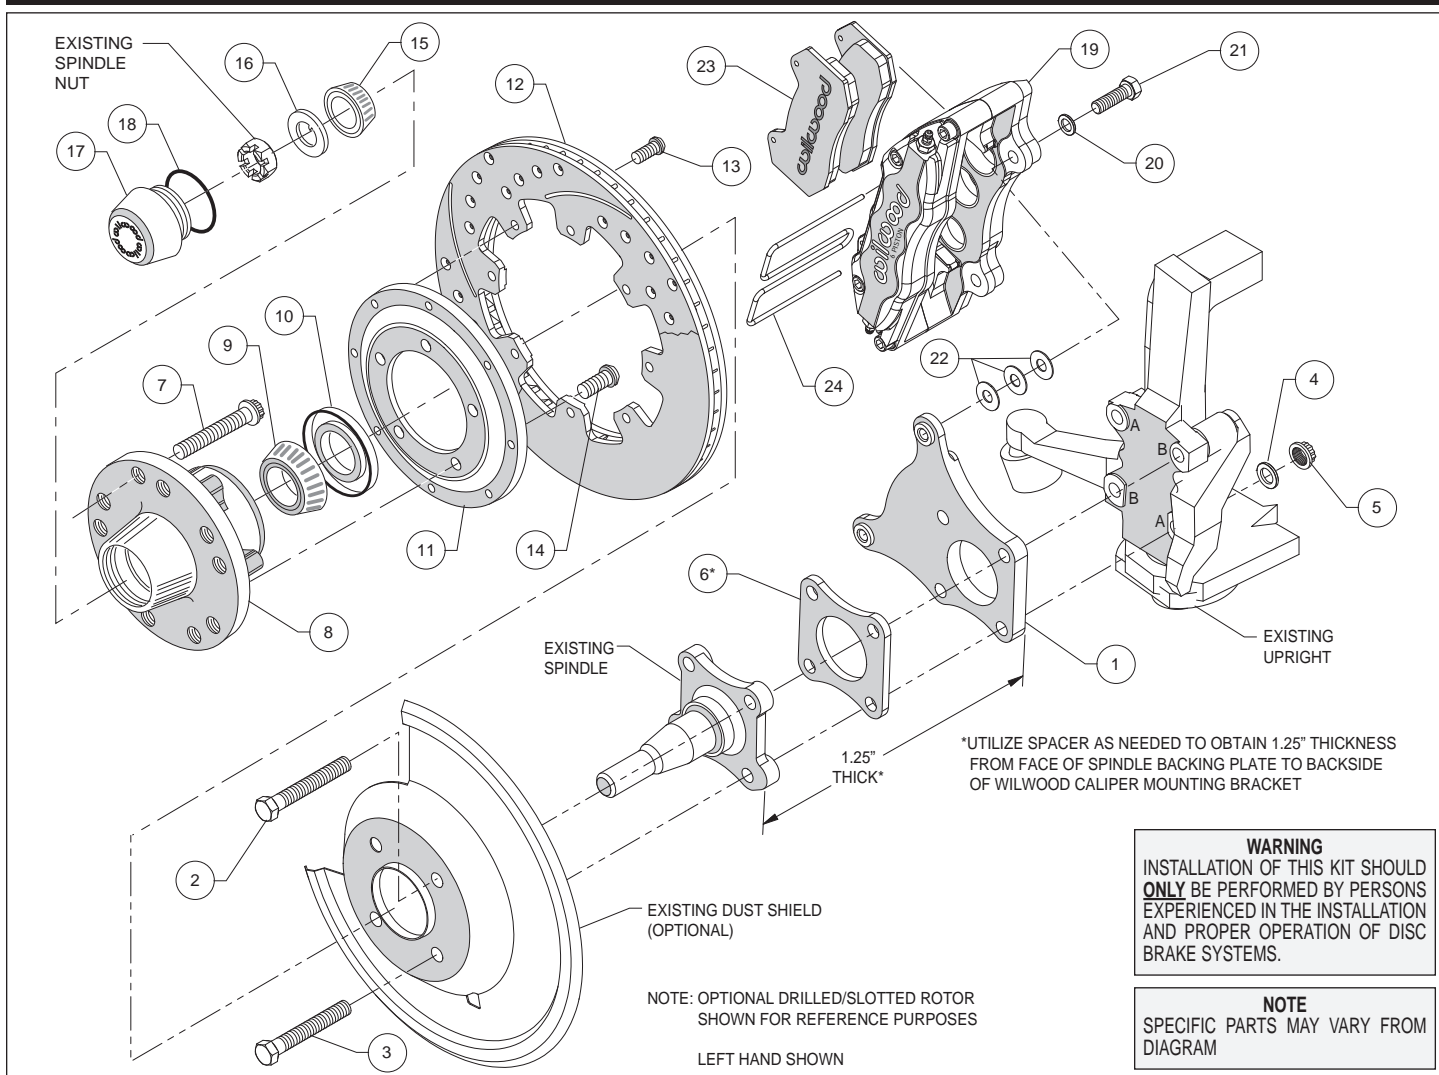
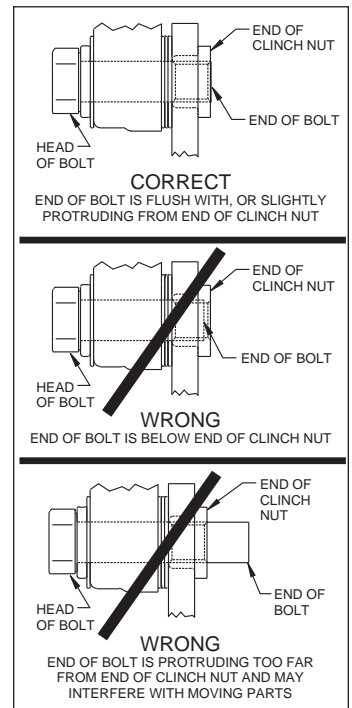

Figure 1. Typical Installation Configuration
Figure 3. Clinch Nut Engagement Diagram
Assembly Instructions (numbers in parenthesis refer to the parts list, on the preceding page and Figure 1): **CAUTION:** *All mounting bolts must fully engage clinch nuts.* Be sure to check that all bolts are either flush or protruding through flanged side of clinch nut after shimming, Figure 3.
- Align caliper mounting bracket (1) with the corresponding holes, between the upright and the spindle. Attach using bolts (2 and 3), washers (4), and locknuts (5) as shown in Figure 1 and Photo 1. Bolt (2) goes into holes on the upright designed with a "B" and bolt (3) goes into the "A" marked holes, Figure 1. Measure the thickness of the spindle and mounting bracket, Figure 1. If approximately 1.00", place spacer (6) between the spindle and mounting bracket to achieve the correct thickness. Temporarily tighten the mounting bolts. Ensure that the flanged heads of the clinch nuts in the bracket are facing outboard, Photo 1. **NOTE:** *The bracket must fit squarely against the mounting bosses on the upright.* Inspect for interference from casting irregularities, machining ridges, burrs, etc. Remove bolts one at a time, apply red *Loctite*® 271 to threads and torque to 47 ft-lbs.
- Install wheel studs (7) into the hub (8), Photo 2. Torque to 77 ft-lb. **NOTE:** *There are two five lug patterns in the hub (5 x 4.50 and 5 x 4.75).* Ensure the correct hub stud pattern is being used to fit the wheel application.
- Pack the large inner bearing cone (9) with high temperature disc brake bearing grease (available from your local auto parts store) and install into the backside of the hub (8), Photo 3.
- Install the grease seal (10) by pressing into the backside of the hub (8), flush with the end of the hub, Photo 3.
- Orient the rotor (12) and the rotor adapter (11) as shown in Figure 1 and Photo 4. Attach the rotor to the adapter using bolts (13). Using an alternating sequence, apply red *Loctite*® 271 to the threads, and torque to 25 ft-lb.
- Mount the adapter/rotor assembly (11/12) to the hub (8) using bolts (14), as shown in Figure 1 and Photo 5. Using an alternating sequence, apply red *Loctite*® 271 to the threads, and torque to 55 ft-lb.
- Screw dust cap (17) into hub (8), Photo 7. Friction created by the o-ring (18) on the dust cap keeps it from unscrewing. **NOTE:** The O.D. of the existing OEM spindle washer may be larger than the I.D. of the dust cap not allowing it to seat against the hub face. Therefore, use the spindle washer (16) supplied with the kit instead of the OEM washer.
- NOTE:** Please reference the caution statement at the beginning of the assembly instructions. This kit contains distinct right and left hand calipers that must be mounted in a specific direction, as described below. Mount the caliper (19) onto the caliper mounting bracket (1) using bolts (21) and washers (20), as shown in Figure 1. Initially place three .035" thick shims (22) on each bolt between the caliper and the bracket, Photo 8. Ensure that the caliper is mounted so the largest pistons are at the rotor exit end of the caliper, in relation to the direction of rotor rotation. Temporarily tighten the mounting bolts and view the rotor (12) through the top opening of the caliper. The rotor should be centered in the caliper, Photo 9. If not, adjust by adding or subtracting shims between the bracket and the caliper. Always use the same amount of shims on each of the two mounting bolts. **NOTE:** The end of each bolt must be flush with or slightly protruding from the head of the clinch nut, as shown in Figure 3. If necessary place spare shims between washer (20) and caliper mounting ear to achieve the proper clinch nut engagement. Once the caliper alignment and clinch nut engagement are correct, remove the bolts one at a time, apply red *Loctite*® 271 to bolt threads, and torque to 40 ft-lb.